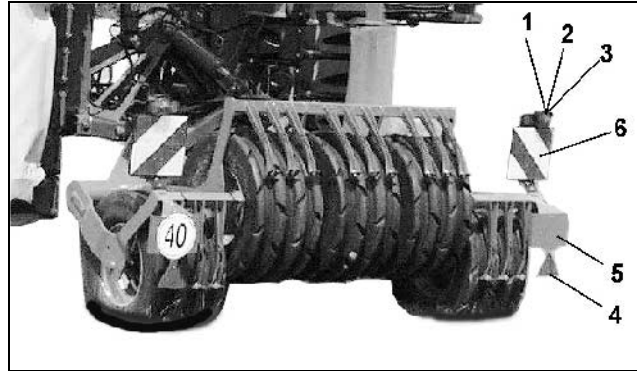

Fig. 19
- 2 rear lights (Fig. 19/1)
- 2 stop lights (Fig. 19/2)
- 12 indicators (Fig. 19/3, required when the tractor indicator is hidden by the machine)
- 2 red reflectors (Fig. 19/4, round, square or triangle)
- one licence plate carrier with lights (Fig. 19/5, required when the tractor indicator is hidden by the machine)
- two warning lights facing to the rear (Fig. 19/6)